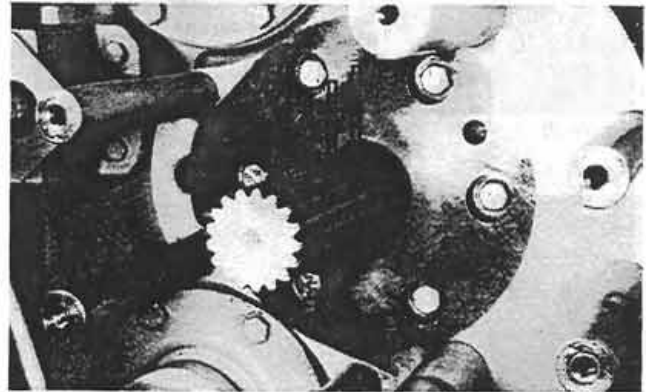

Figure 9:
2. Inspect the splines of the protruding center shaft for wearing at the four (4) disc fitting areas (Fig. 9). If wearing is severe enough to let the brake discs hang-up, the center shaft must be replaced. If center shaft replacement is needed, refer to the Steiger Two-Speed Transfer Case Service Manual.